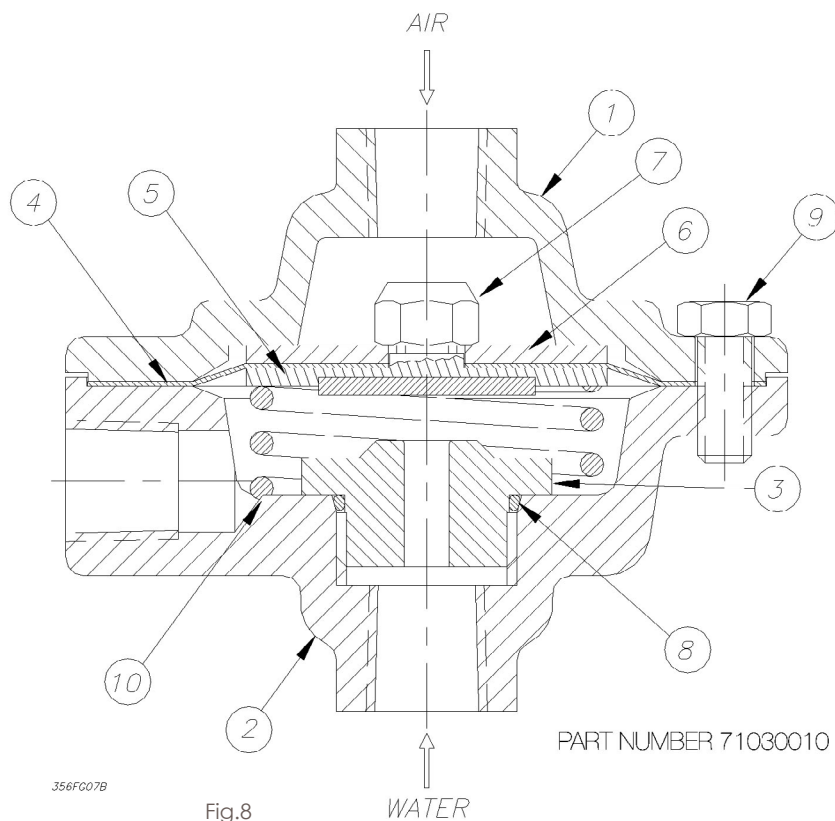

Fig.8
3. Remove all six bolts (#9, Fig. 8) holding the Actuator together. Clean or replace the facing plate assembly (#5, Fig. 8) and seat (#3, Fig. 8).
4. Reassemble the Actuator, using a torque of 8 ft-lbs on the facing plate nut (#7, Fig. 8) and 12 ft-lbs on the six bolts (#9, Fig. 8). Use a cross-tightening pattern. Reinstall the Actuator. Set up the Model DDX Deluge Valve as per the section "Resetting the Type F Double Interlock Preaction System." namely, periodic cleaning and inspection of the internal valve parts, in the event that water builds up inside the